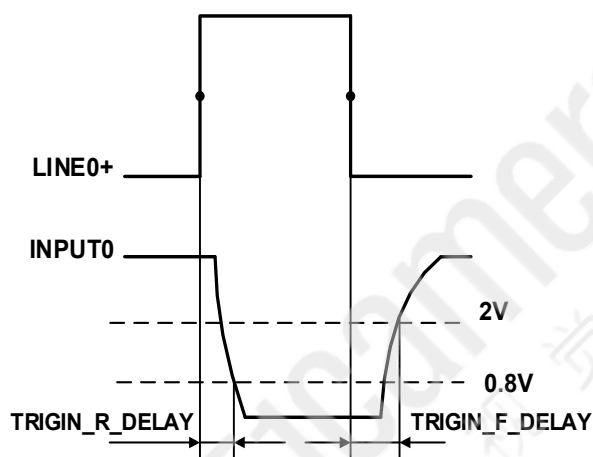

Figure 7-4 Parameter of opto-isolated input circuit
- Rising edge delay: $< 50 \mu s$ ($0^{\circ}C \sim 45^{\circ}C$), parameter description as shown in Figure 7-4.
- Falling edge delay: $< 50 \mu s$ ($0^{\circ}C \sim 45^{\circ}C$), parameter description as shown in Figure 7-4.